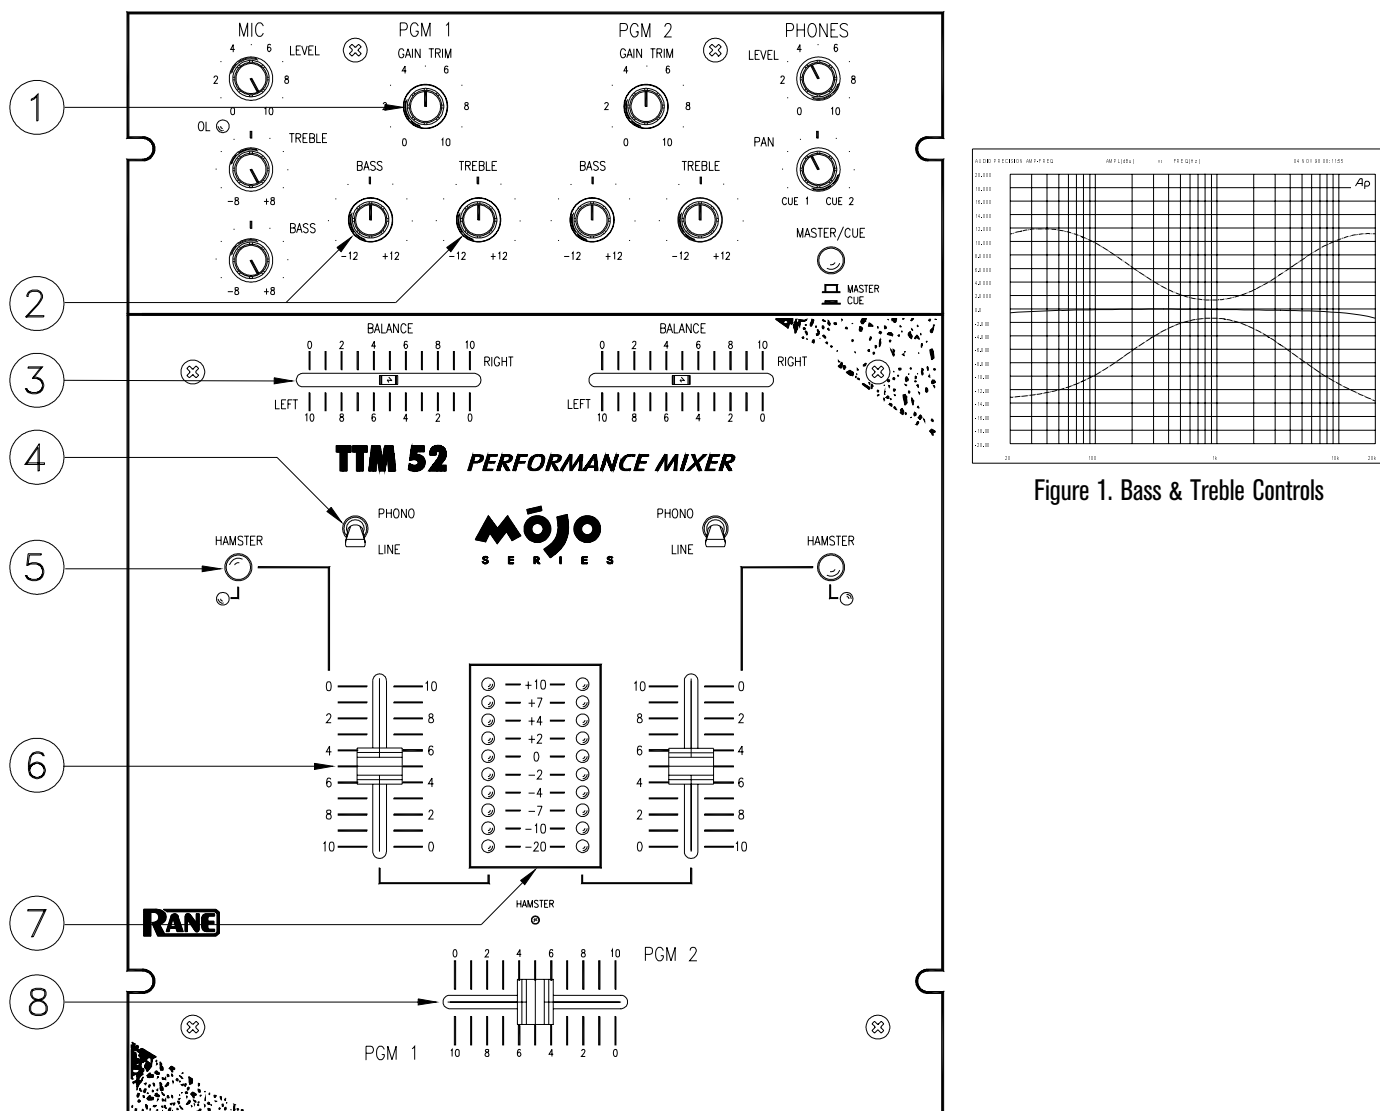
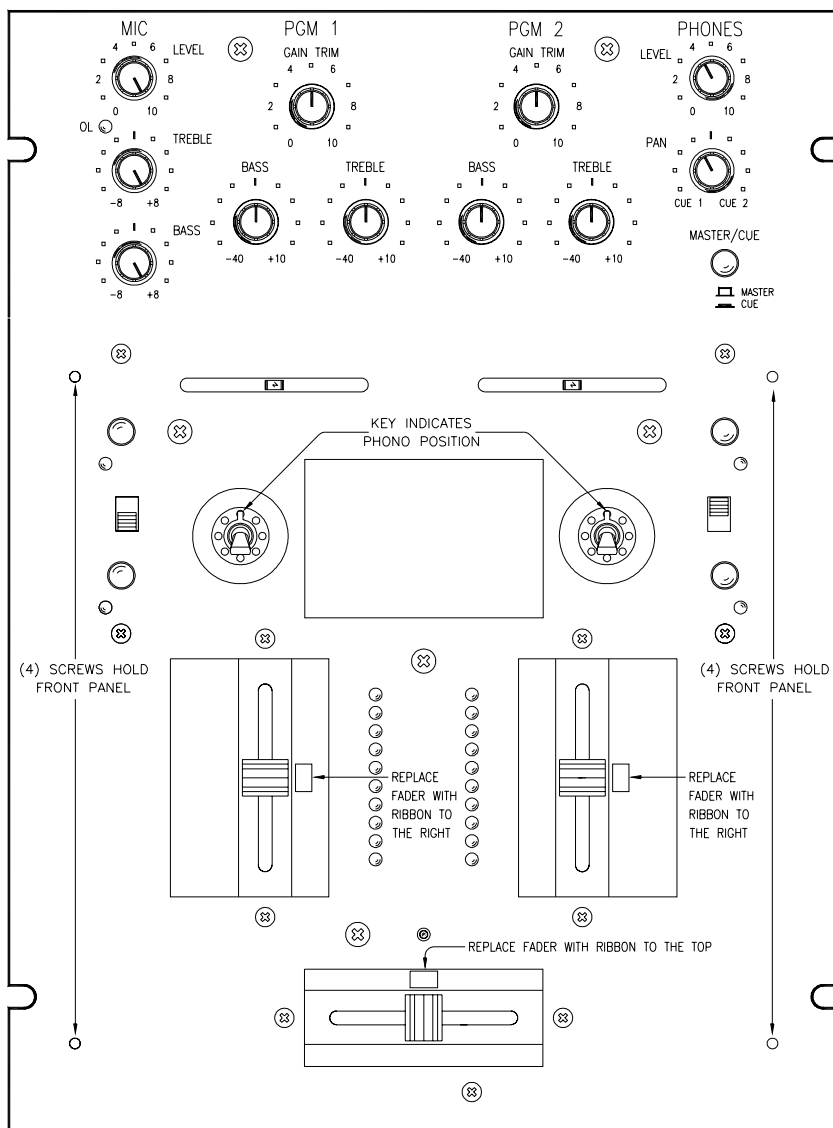

Figure 1. Bass & Treble Controls
Figure 4. Phono/Line switch rotation or replacement
- ① **PGM 1** and **PGM 2** input **GAIN TRIM** controls are used to adjust input level. *With the **Program Faders** (see ⑥) at maximum, set controls to give a peak reading of +4 on the meter. Set the **Master Level** to minimum while adjusting). It is always best to run the input level at +4 to +7. Use the **MASTER LEVEL** (see ⑮) control to adjust the volume at the **MASTER OUT** (see ⑰).*
- ② **BASS** and **TREBLE** controls provide ± 12 dB of EQ for **PGM 1** and **PGM 2**. The graph shown in Figure 1 indicates the response of the filters.
- ③ **BALANCE** controls are used for **LEFT/RIGHT** balance of **PGM 1** and **PGM 2** or for **LEFT/RIGHT** Pan effect. Push the control to the left and sound moves to the left channel. Push the control to the right and sound moves to the right channel.
- ④ **PHONO / LINE** source select switches are provided for **PGM 1** and **PGM 2**. These are “clickless” switches suitable for “transform scratch” applications. The switches are field replaceable and may be rotated in 45° increments. *See Figure 4 on page Manual-6 for rotation and replacement instructions.*
- ⑤ **HAMSTER** switches are provided for **PGM 1** and **PGM 2** **Program Faders**. These switches reverse the operation of the adjacent **Program Fader**. When engaged, signal is *off* with the **Program Fader** up, and *maximum* with the **Program Fader** down.
- ⑥ **Program Fader** controls for **PGM 1** and **PGM 2** are ultra low noise, long-life, monorail devices. An *ActiveFader™* design completely isolates the control element from the audio, providing the highest reliability and performance. *See page Manual-6 for cleaning and replacement instructions.*
⑦ **PGM 1** and **PGM 2 Meters** provide true L+R Dual Mono indication of **Post-Program Fader** signal levels. Ten segment resolution is provided with a one second peak hold indication. With the Program Fader set to maximum, the input **GAIN TRIM** should be set to indicate an average level of about +4.
⑧ **Crossfader** control is implemented using Ranes' proprietary *ActiveFader™* design. As with the **Program Faders**, all audio is isolated from the control element, greatly extending the life and performance of the control. *See page Manual-6 for cleaning and replacement instructions*